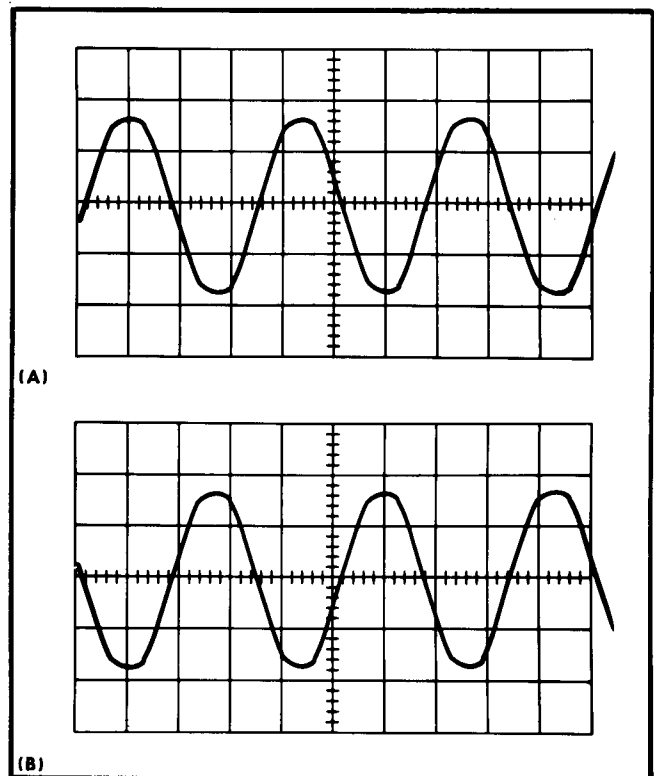

Fig. 5-10. Typical CRT display showing correct operation of the SLOPE switch. (A) SLOPE switch set to +, (B) SLOPE switch set to − position.
f. Check—Slope of the display must correspond to the + and — settings of the SLOPE switch (see Fig. 5-10).